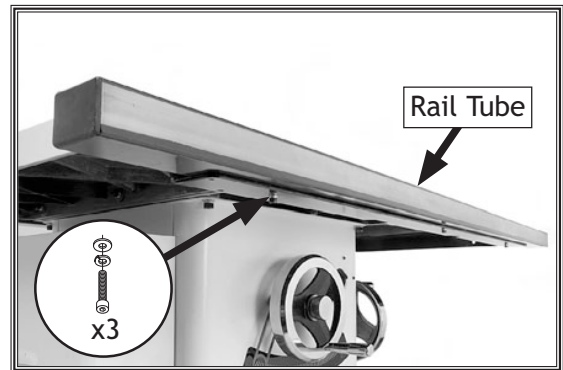

Figure 17. Model W1819 tube attached to front rail.
11. **W1819 ONLY:** Install the 62" front rail tube onto the 50" front rail with the three M6-1 x 16 cap screws, 6mm flat washers, and 6mm lock washers, as shown in **Figure 17**.